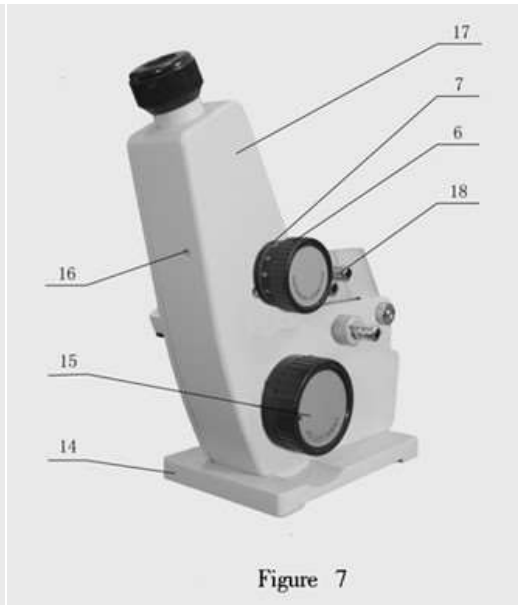

Figure 7
5.1.1 Before performing the measurement, use distilled water (as specified in the Addendum) or standard sample to check the readings. In case of using standard sample, put one or two drops of naphthalene bromide onto the polished surface of the refracting prism, then make it contact with the polished surface of the standard sample. When the indication of the field of view is higher than the value of the standard sample, observe whether the separatrix is in the center of the graticule. If there is a deviation, slightly turn the screw inside the small hole (16) of Figure 7 with a screw driver, making the objective to offset until the separatrix moves to the center of the graticule. Repeat the observation and correction until to minimize the indication of the initial error (including the collimating error of the operator). After the completion of the correction, this location should be kept unchanged throughout the process of measurement.